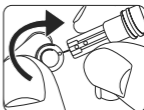

Figure 25
**STEP 3:** Remove the protective cap from the lancet by twisting it and then save it for later use. See Figure 25.